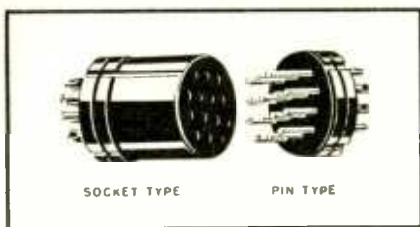

Fig. 3. Pin and socket type inserts
*Inserts*: The internal members consisting of assembled insulation and contacts are called inserts. In these assemblies, the standard insulation is molded bakelite and the contacts are machined or stamped from high-conductivity non-ferrous metal. There are two types of inserts, namely "socket" and "pin," as shown in Fig. 3, and each is available in sizes accommodated by the fifteen different shell diameters.